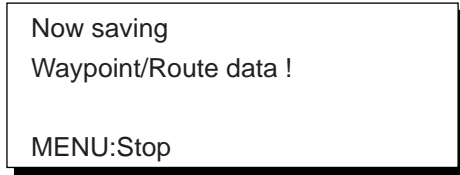

Figure 8-22
- 11) Press the **NU/CU ENT** key. The message shown in Figure 8-22 appears while data is being saved.